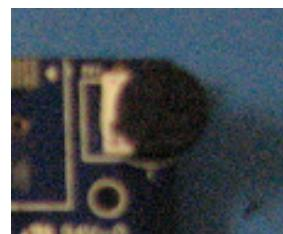

Figure 7-19 • POT RV1
2. Locate POT RV1 on the bottom, left hand corner of the board. Turn POT RV1 counter-clockwise all the way to the left, as shown in Figure 7-19.